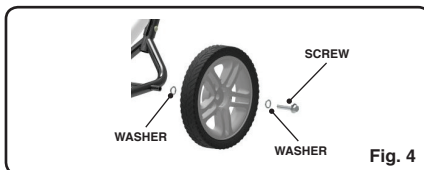

Fig. 4
1. Install the wheels to the frame using the provided hex screws and washers. Install one washer on the inside and one washer on the outside of each wheel. Tighten to 9-13 ft. lbs. (12-18 Nm) torque using a 14mm wrench. (Fig. 4)